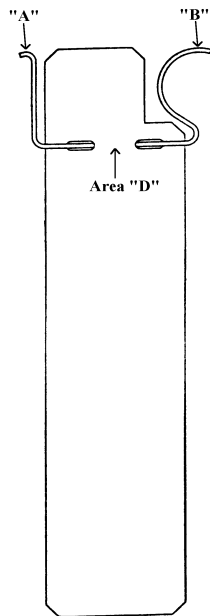
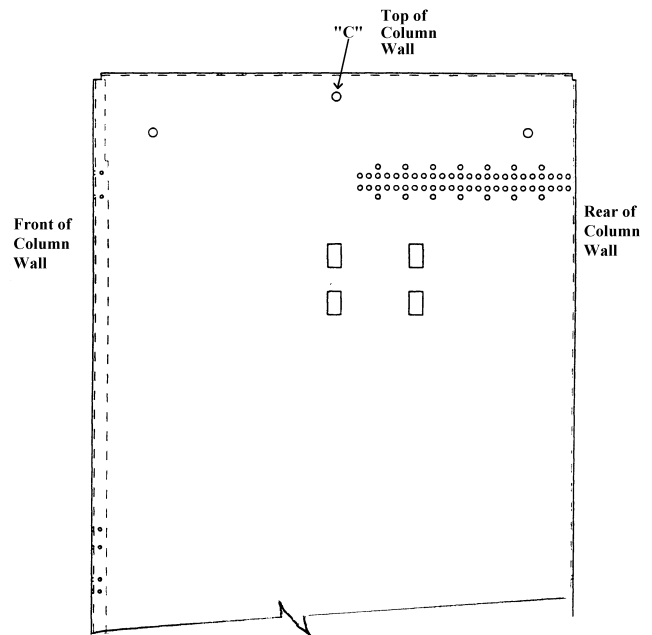

Figure 5
Figure 6
- ◆ Place Bottle Divider Assembly in position with area "D" (see figure 5) towards the front as shown.
- ◆ Spring clip end "A" (see figure 5) goes in the center hole "C" at the top of the narrow column wall on the left (see figure 6).
- ◆ Spring clip end "B" (see figure 5) goes in the center hole at the top of the narrow column wall on the right (see figure 6).
- A) Unhook spring clip ends "A" and "B" (see figure 5) of Bottle Divider Assembly and lay bottle divider on top of the front bottles.
- ◆ Spring clip end "A" (see figure 5) goes in the center hole at the top of the narrow column wall on the left (see figure 6).